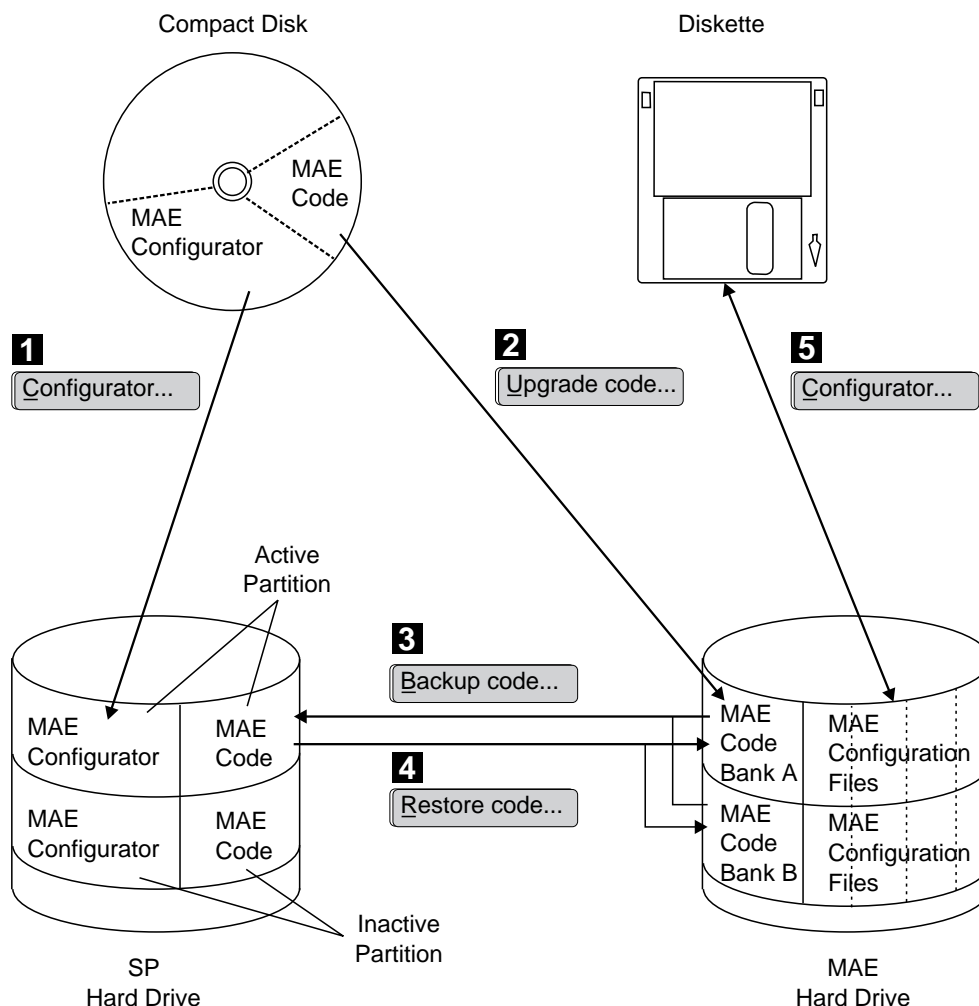

Figure 2-4. Overview of the MAE Code and Configuration Files Management
This procedure saves only the image code from the MAE hard disk to the hard disk of the service processor. Refer to Figure 2-4 on page 2-4 detail **3**. To save the configuration files you must use the MAE configurator program.
This procedure restores only the image code from the hard disk of the service processor to the MAE hard disk. Refer to Figure 2-4 on page 2-4 detail **4**. To restore the configuration files you must use the configurator program.
1. Refer to Figure 2-4 on page 2-4 detail **2**.
- Refer to Figure 2-4 on page 2-4 detail **1**.